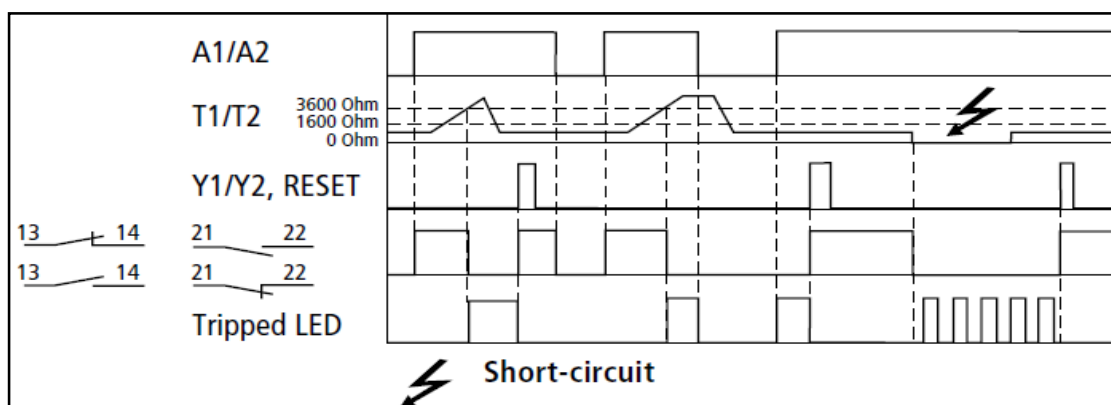

Figure 4.18 Functional diagram of zero-voltage protected operation and short-circuit protection in the sensor circuit
- 1) Zero-voltage protection means that the error message is retained even after loss of the supply voltage (fig4.18).